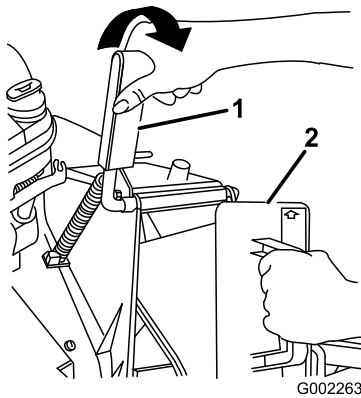

Figure 7
1. Open the discharge door by pulling the handle rearward (Figure 7). Hold the discharge door handle to prevent the spring-loaded door from closing while you insert the plug.
2. Since the plug is slightly wider than the discharge tunnel opening, rotate the plug clockwise slightly while inserting it (Figure 7).